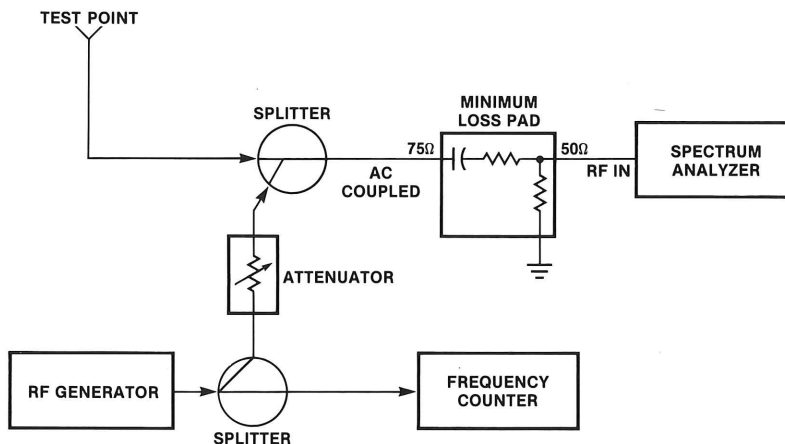

Figure 4-1. Equipment connection for frequency measurement.
1. Interconnect the equipment as illustrated in figure 4-1.